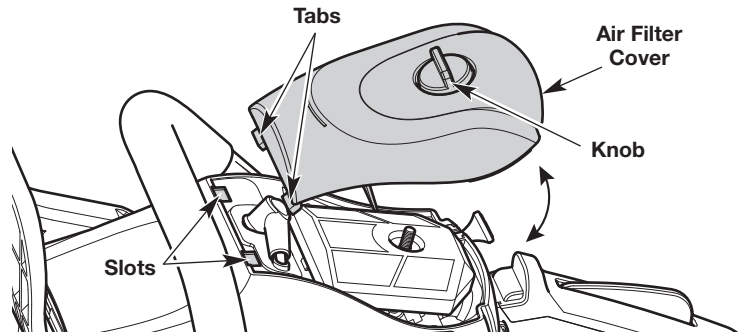

Fig. 42
1. Turn the knob on the air filter cover counterclockwise to loosen the air filter cover (Fig. 42).
2. Remove the air filter cover (Fig. 42).
6. Place the air filter cover back onto the unit. Insert the two tabs on the air filter cover into the two slots on the chain saw housing (Fig. 42).
2. Turn the knob on the air filter cover counterclockwise to loosen the air filter cover (Fig. 42).
3. Remove the air filter cover (Fig. 42).
10. Place the air filter cover back onto the unit. Insert the two tabs on the air filter cover into the two slots on the chain saw housing (Fig. 42).